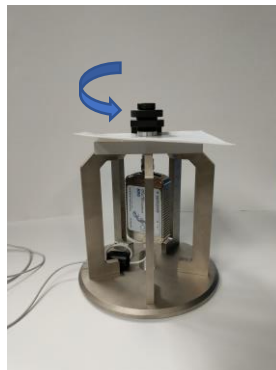
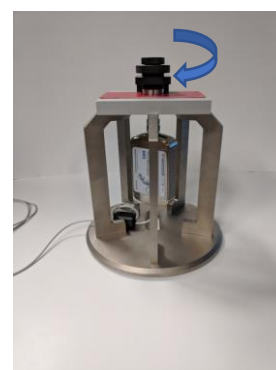

Figure 12. Raise Electrode
Figure 13. Lower Electrode
3. Turn the top knob counter-clockwise to raise the top electrode. (**Figure 12**). Place the measurement specimen between the two electrodes and turn the top knob clockwise to lower the top electrode until it is snug. (**Figure 13**). Then use downward pressure on the torque-limiting knob while turning clockwise to lower the top electrode to its final force.